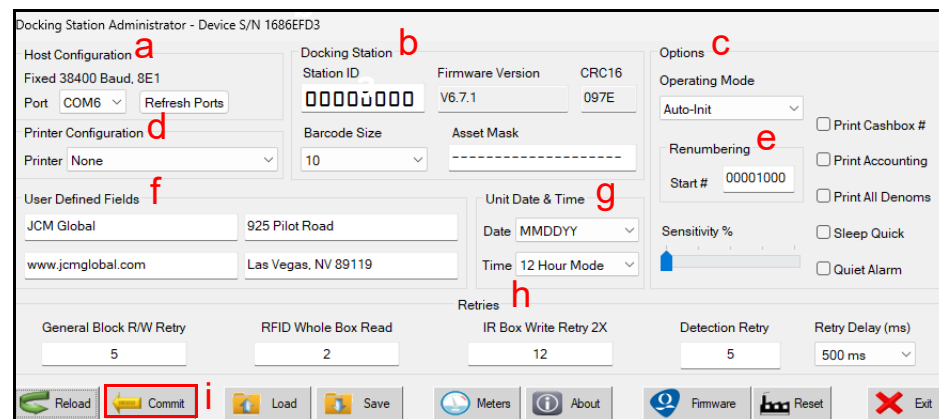

Figure 4 DSA Main Screen Data Groups
The DSA Main Screen is subdivided into eight (8) Data Groups (highlighted in Figure 4 below):
- Host Configuration (Figure 4 a)
- Docking Station (Figure 4 b)
- Options (Figure 4 c)
- Printer Configuration (Figure 4 d)
- Renumbering (Figure 4 e)
- User Defined Fields (Figure 4 f)
- Unit Date & Time (Figure 4 g)
- Retries (Figure 4 h)
**NOTE:** After modifying any Docking Station settings on the DSA Main Screen, click the 'Commit' button (refer to Figure 4 i and Table 1 on the following page) to save the changes to Docking Station Memory. After changes have been saved, the Docking Station uses the saved settings until they are updated and saved again.